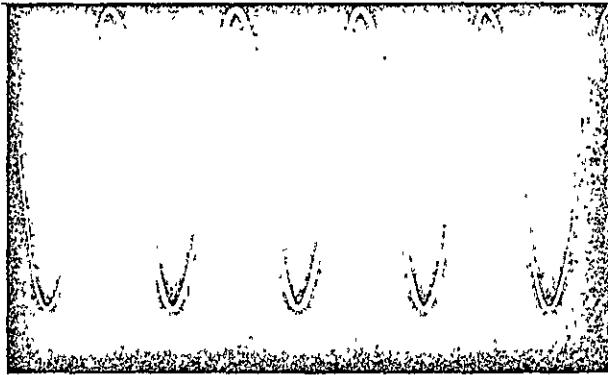

Figure 3-6. SPLITTER AUDIO OUT 1, 2 or 3
8. Adjust the front panel SPLITTER AUDIO OUTPUT LEVEL control for 1 V pp at the SPLITTER AUDIO OUT 1 test jacks (refer to Figure 3-6).